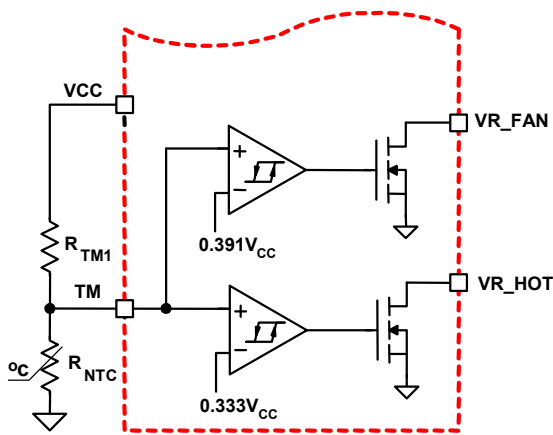
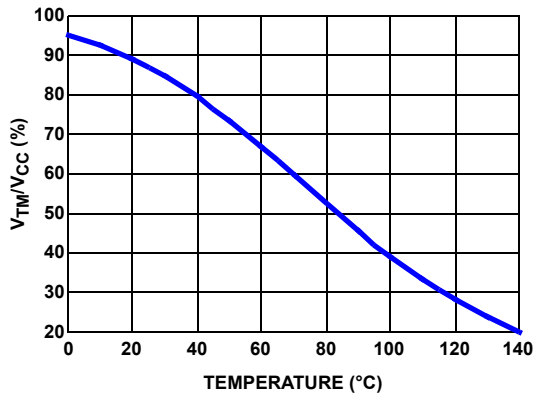

FIGURE 14. BLOCK DIAGRAM OF THERMAL MONITORING FUNCTION
FIGURE 15. THE RATIO OF TM VOLTAGE TO NTC TEMPERATURE WITH RECOMMENDED PARTS
The diagram of the thermal monitoring function block is shown in Figure 14. One NTC resistor should be placed close to the power stage of the voltage regulator to sense the operational temperature, and one pull-up resistor is needed to form the voltage divider for TM pin. The NTC thermistor should be placed next to the current sense element of a phase that will remain active when  $\text{PSI}\#$  is asserted low. As the temperature of the power stage increases, the resistance of the NTC will reduce, resulting in the reduced voltage at the TM pin. Figure 15 shows the TM voltage over temperature for a typical design with a recommended  $6.8\text{k}\Omega$  NTC (P/N: NTHS0805N02N6801 from Vishay) and  $1\text{k}\Omega$  resistor RTM1. We recommend using these resistors for accurate temperature compensation.
Based on the VCC voltage, ISL6336, ISL6336A converts the TM pin voltage to a 6-bit digital signal for temperature compensation. With the non-linear A/D converter of ISL6336, ISL6336A, the TM digital signal is linearly proportional to the NTC temperature. For accurate temperature compensation, the ratio of the TM voltage to the NTC temperature of the practical design should be similar to that in Figure 15.
1. Properly choose the voltage divider for TM pin to match the TM voltage vs temperature curve with the recommended curve in Figure 15.